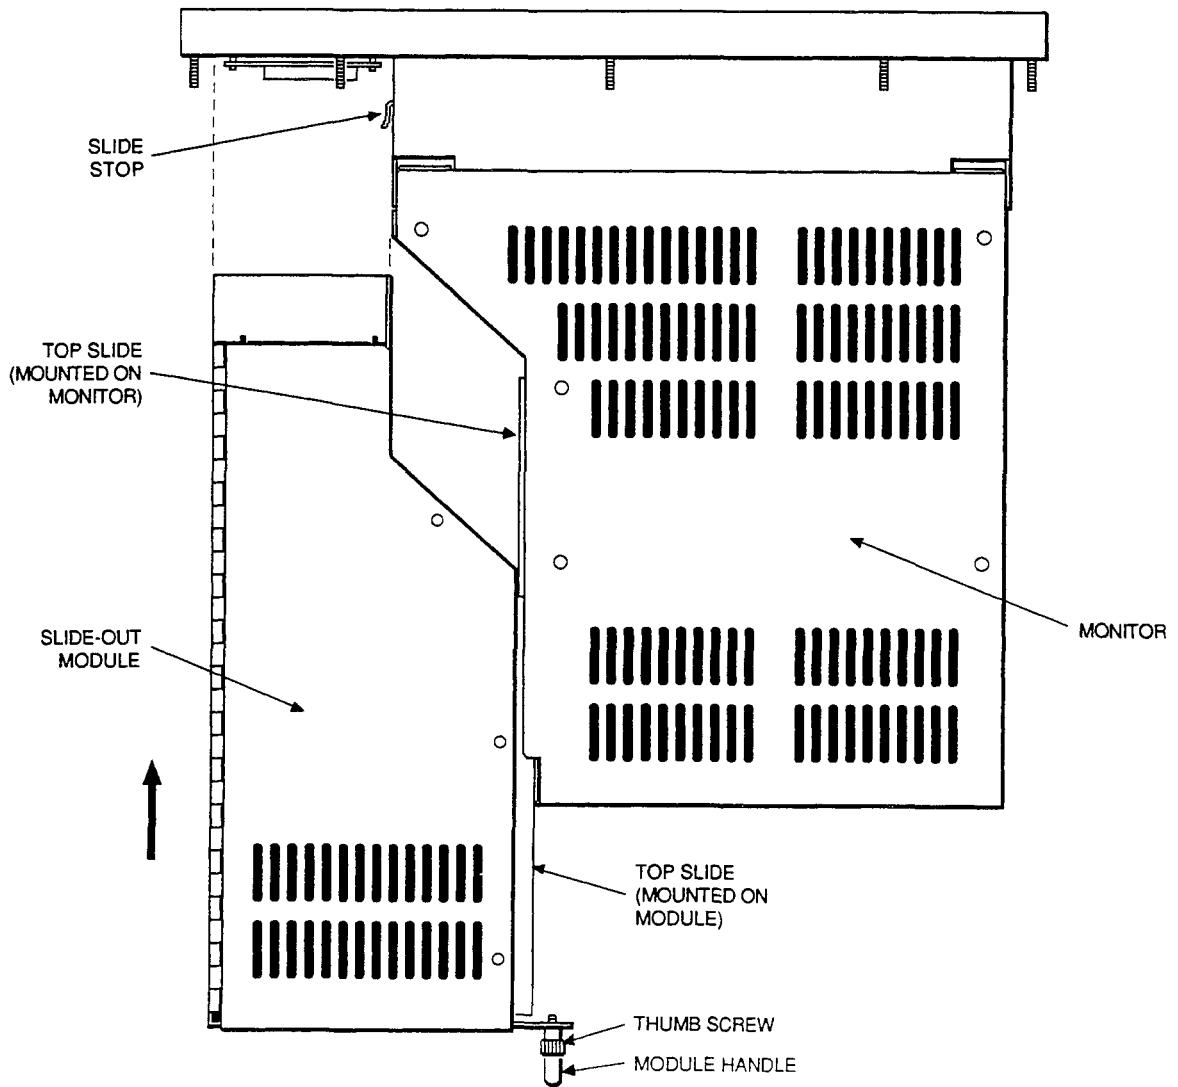

Figure 2-4. Installing the Slide-out Computer Module
1. Match the top and bottom guides on the module with the slider indentations on the side of the monitor module shell, as illustrated in Figure 2-4.